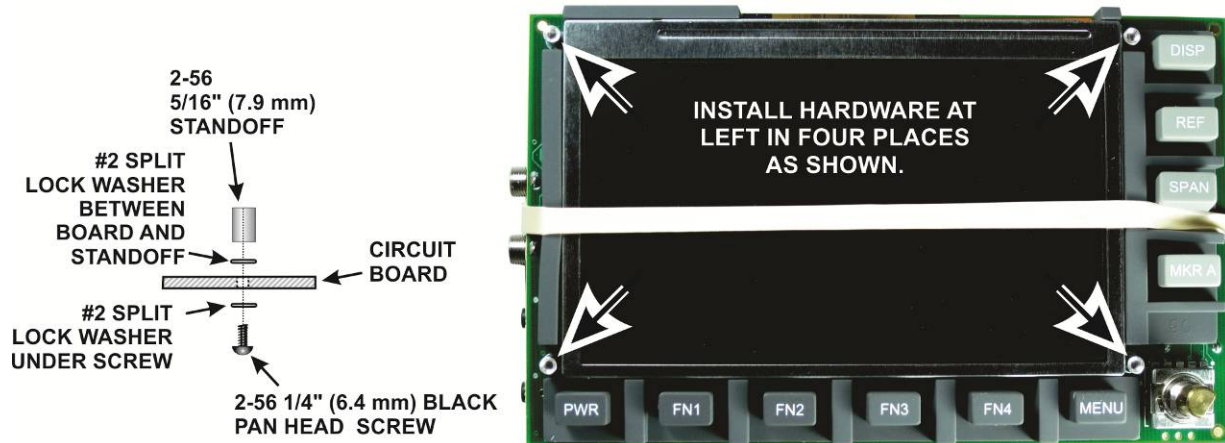

Figure 26. Mounting the Front Panel Standoffs.
□ Remove the front panel display board from its anti-static packaging. Do not remove the rubber band, It is holding the LCD in place. Mount four 2-56 5/16" (7.9 mm) standoffs on the front panel display board as shown in Figure 26. Be sure to place one lock washer between the standoff and the pc board as shown. This lock washer is important to establish the proper height of the standoff.